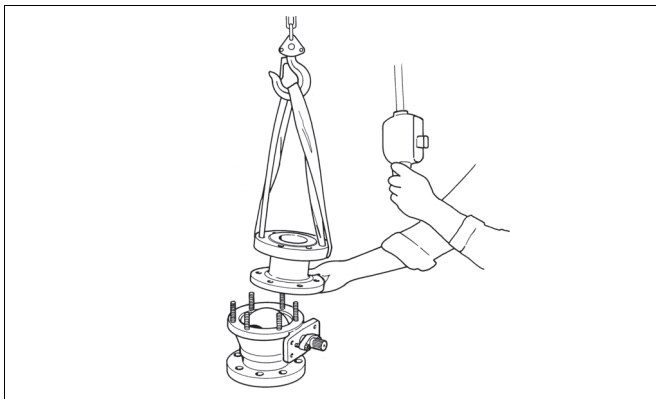

Fig. 17 Lifting the body cap
- ❑ Remove the key (10).
- ❑ Unscrew the body stud nuts (16).
- ❑ Remove the body cap (2). If the seat (7) is not lying on the ball (3), prevent the seat from falling from the body cap and detach it later. **Don't leave your fingers between the body cap and the surface!** Stand the removed body cap on its pipe flange. See Fig. 17.